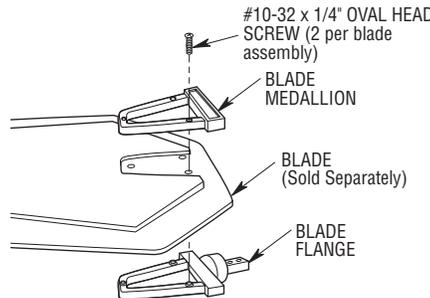

Figure 1
1. Position the blade medallion on top of the blade by aligning the raised bosses into the blade mounting holes. Carefully position the blade flange onto the bottom of the blade by aligning the bosses with the blade holes. Install three #10-32 x 1/4" oval head screws into the mounting holes of the medallion and tighten. Be sure the flange and medallion are aligned with the blade holes (Figure 1). If using wooden blades, be very careful not to over tighten the blade screws.